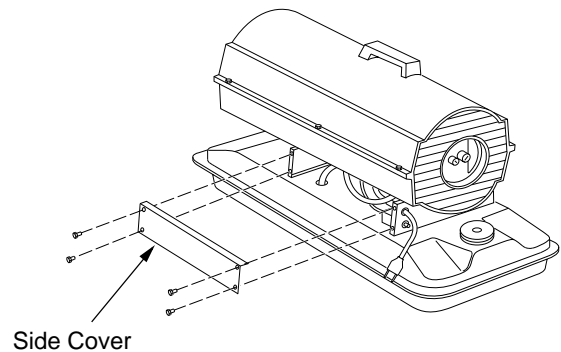

Figure 28 - Removing Cover
1. Using the 5/16" nut driver or socket wrench, remove the four side cover screws (see Figure 28).